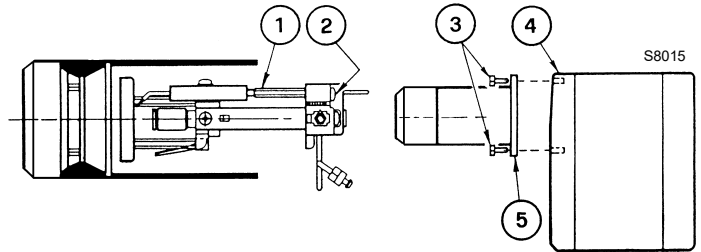

Fig. 8
- Tighten the two bolts 3) securely (Fig. 8).